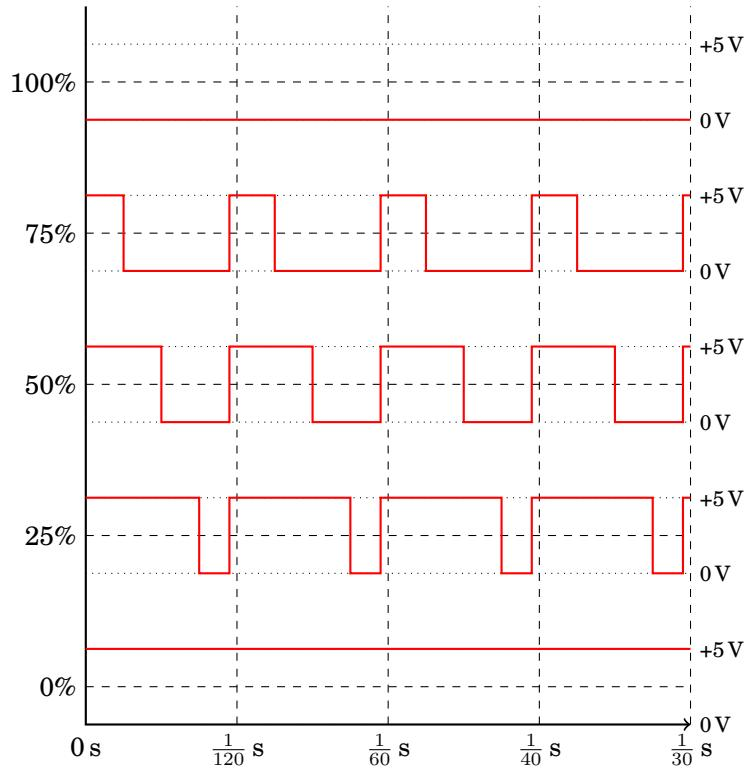

Figure 2: Duty Cycles of Channel Logic Drive Outputs
For experimental use, TTL-level outputs for the first four channels are available on J18. These are active-low outputs, where a “low” (0) state indicates that the output should be on, and a “high” (1) state means that the output should be off. Note that if an output is at a dimmer level other than fully on or fully off, the signal will pulse with a duty cycle corresponding to the dimmer level as illustrated in Figure 2.